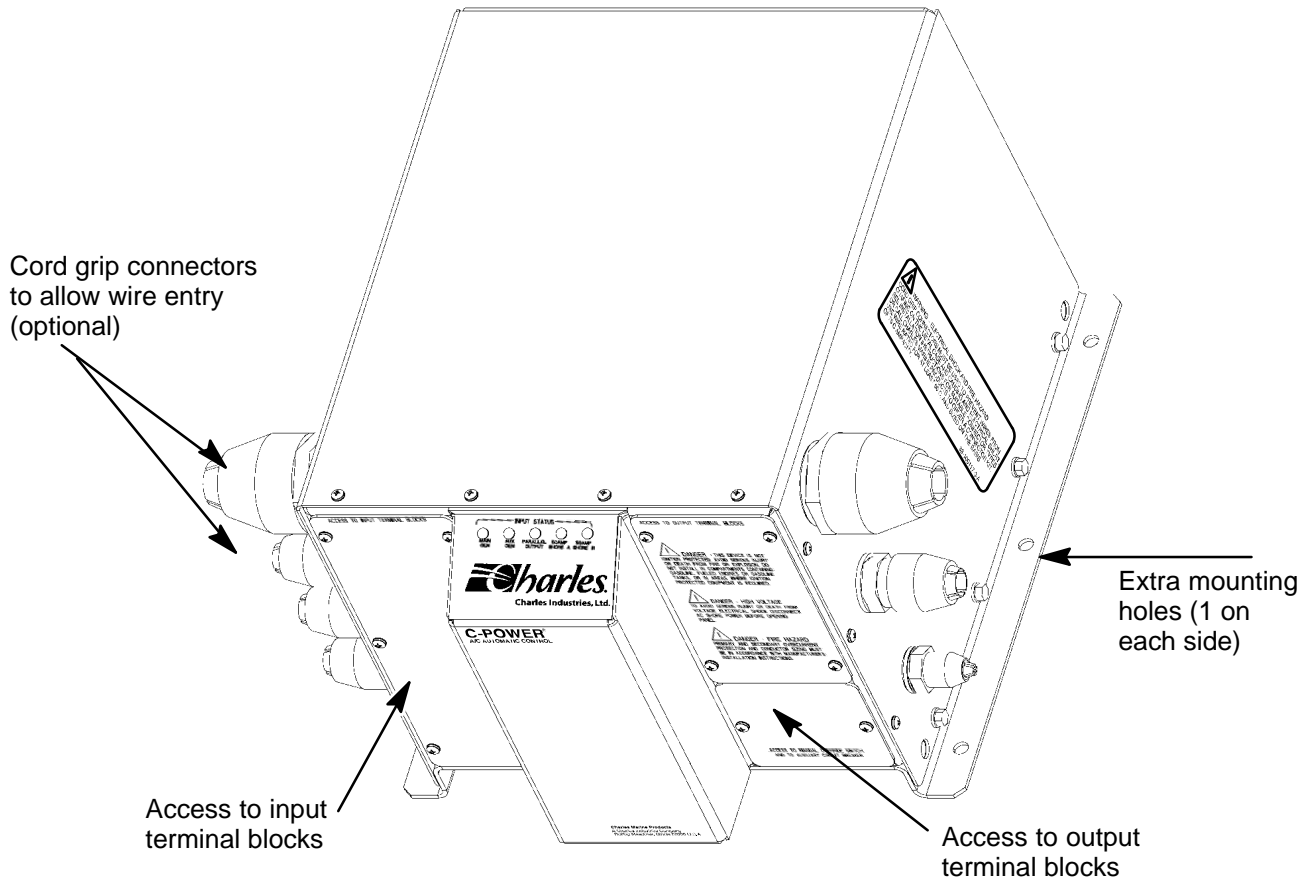

Figure 1. AC Master Controller Access Openings
5.	(optional) For extra protection, mount 2 extra screws through the holes in the base plate (see Figure 1).
4.	(optional) For extra protection, mount 2 extra screws through the holes in the base plate (see Figure 1).